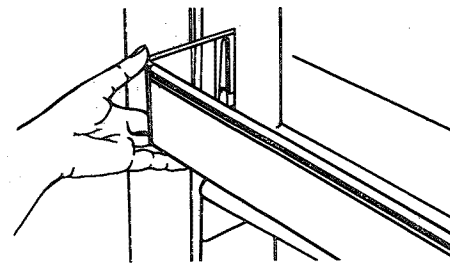

Figure 32
- Pull shelf straight up. See Figure 32.